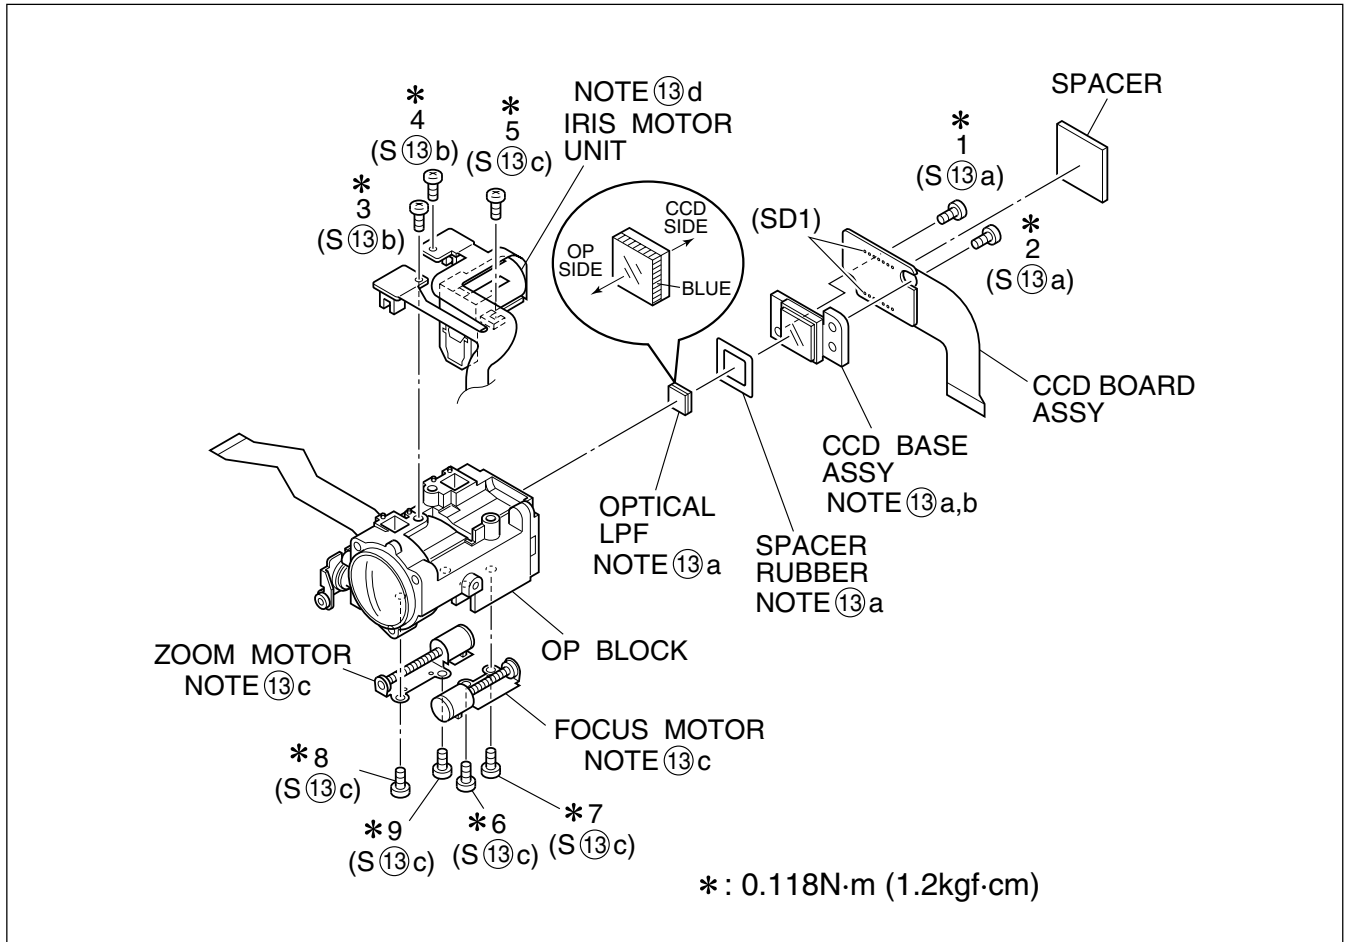

Fig. 1-6-1
NOTE ⑬b: Refer to Fig. 1-6-1 for the disassembly method.
Reference drawing	Fig.1-6-1